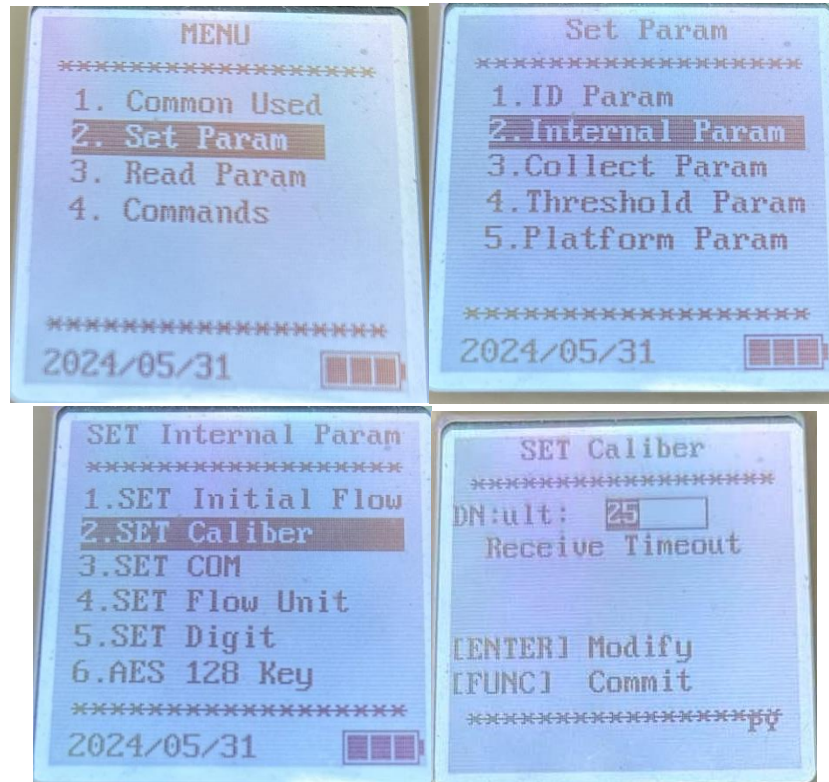

Figure 12: Setting the Water Meter Size (DN)
Figure 12 shows the steps to set the size of the water meter (DN). This setting is to ensure the thresholds set for the backflow and overflow are accurately monitored.